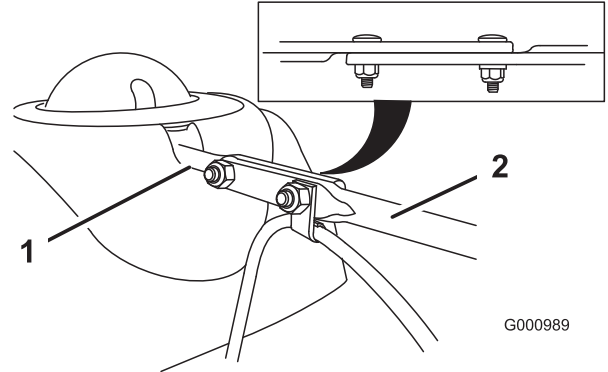

Figure 10
3. Align the flattened back end of the long chute-control rod with the flattened front end of the short rod that extends from the control panel so that they nest together (Figure 10).